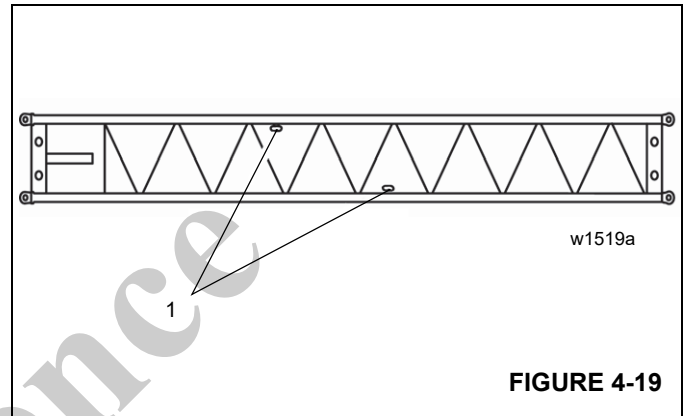

FIGURE 4-19
The 8 m (26 ft) inserts have two slinging points (1) (each slightly offset on each side) (Figure 4-19).